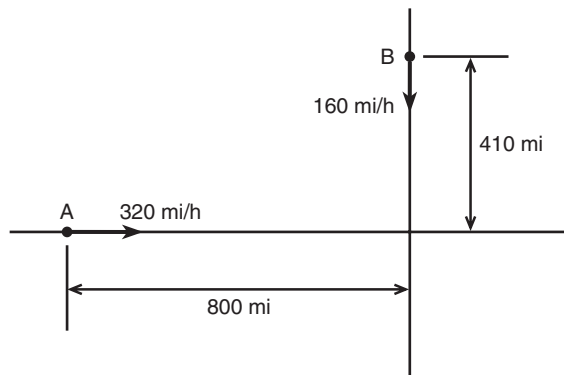

Figure P41
41. Aircraft A is flying east at 320 mi/hr, while aircraft B is flying south at 160 mi/hr. At 1:00 P.M. the aircraft are located as shown in Figure P41.